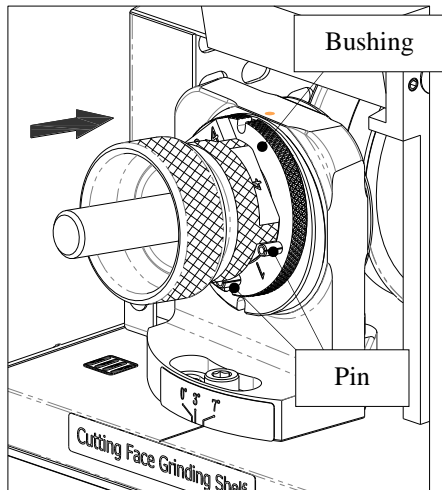
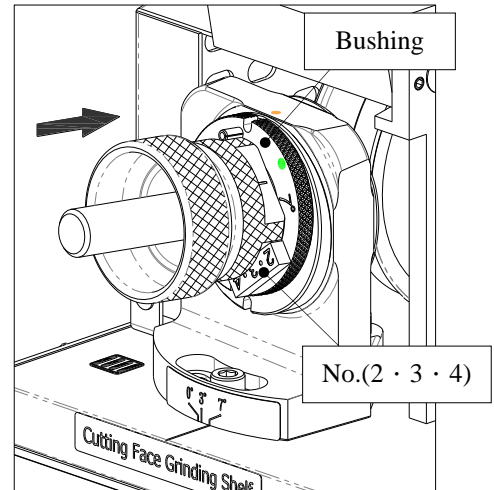

Fig. 19-3
Fig. 19-4
- ① Insert the Chuck set into the bushing on Shelf (III) , align Slot No.1 of the Chuck set with the two pins where marked as No.1, gently push the Chuck set into the shelf until the grinding noise stops, then take out the Chuck set. (Fig. 19-3)
- ② Take out the bushing; turn it by 180° to No.(2 · 3 · 4), align No.(2 · 3 · 4) of the bushing with the Pin on the shelf, then insert the bushing into the shelf.
- ③ Insert the Chuck set into the bushing on Shelf (III) , align Slot No.2 of the Chuck set with the bushing where marked as No.(2 · 3 · 4), gently push the Chuck set into the shelf until the grinding noise stops. (Fig. 19-4)
- ④ Take out the Chuck set; turn it to Slot No.3, align Slot No.3 of the Chuck set with the bushing where marked as No.(2 · 3 · 4), gently push the Chuck set into the shelf until the grinding noise stops. (Fig. 19-4)
- ⑤ Take out the Chuck set; turn it to Slot No.4, align Slot No.4 of the Chuck set with the bushing where marked as No.(2 · 3 · 4), gently push the Chuck set into the shelf until the grinding noise stops. (Fig. 19-4)